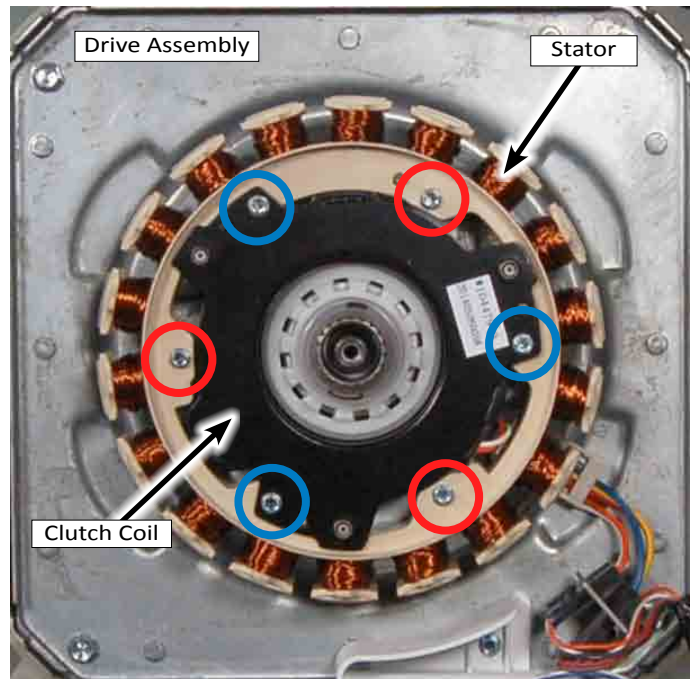

Figure 3
3. **Remove Clutch Coil and Stator** - Completely remove the three 7mm stator bolts (red) and then loosen the three 7mm clutch coil bolts (blue) until they disengage the drive assembly (see Figure 3). Remove both the clutch coil and stator from the drive assembly. **NOTE:** Leaving the clutch coil bolts in place maintains the orientation of the coil to the stator for ease of reinstallation.